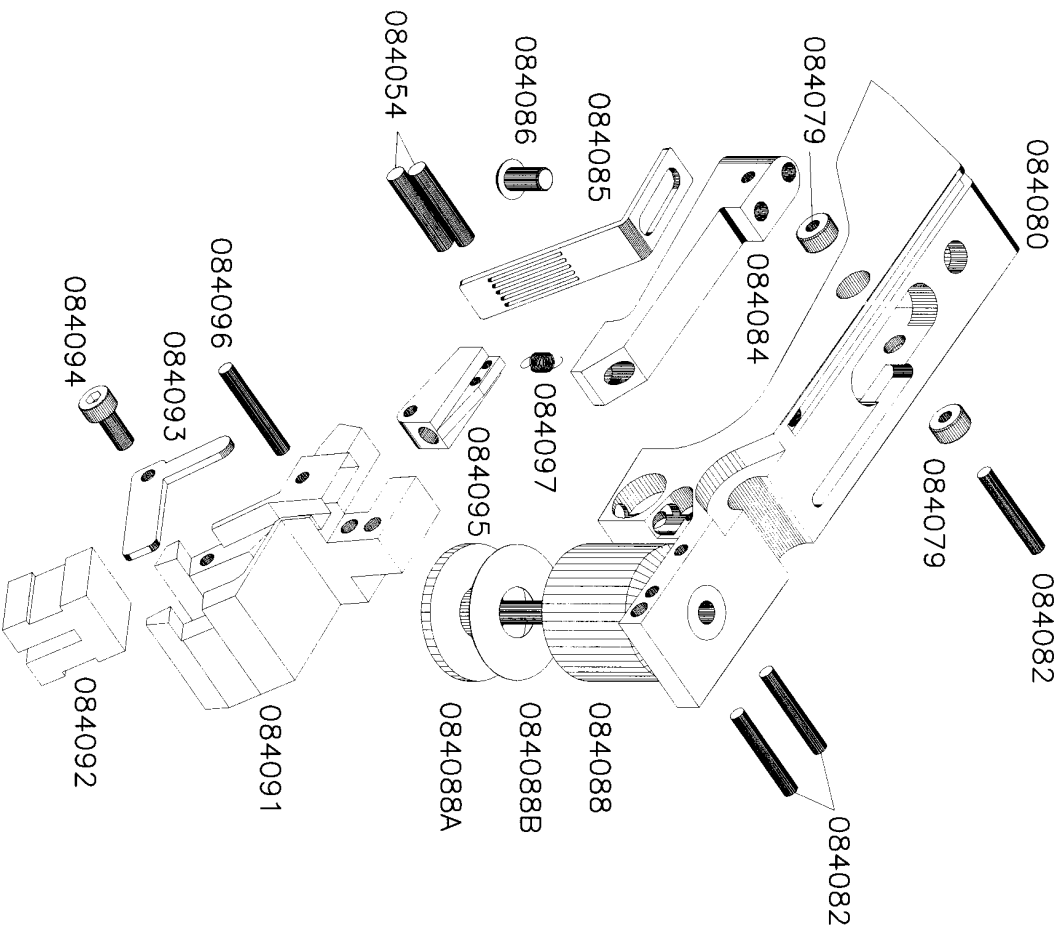

FIG. 1
1. Switching-on the electronic trigger and battery check (*Fig. 1*)